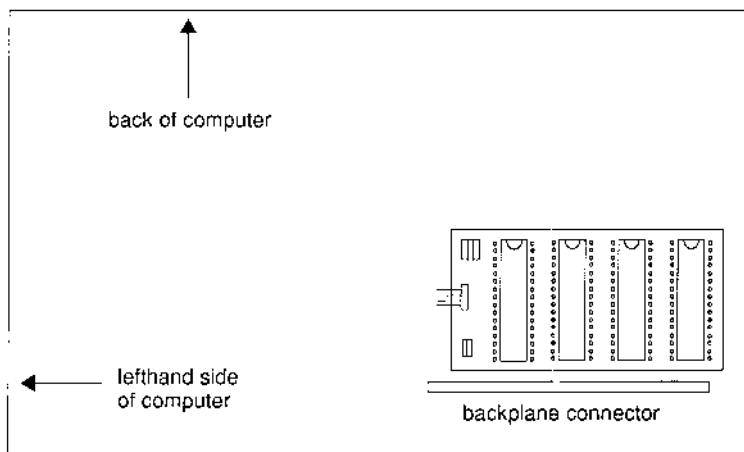

Figure 4 Orientation of the upgrade daughter board
- 3 Position the upgrade daughter board with reference to the computer as shown in Figure 4 below. Place the daughter board over the empty ROM sockets, taking care that the pins on the daughter board line up with the sockets on the main printed circuit board (mother board). Push down gently on the daughter board until the pins move into place with the ROM sockets. Then push down firmly and evenly so that all the connections are made at the same time and the pins fit securely in the sockets.